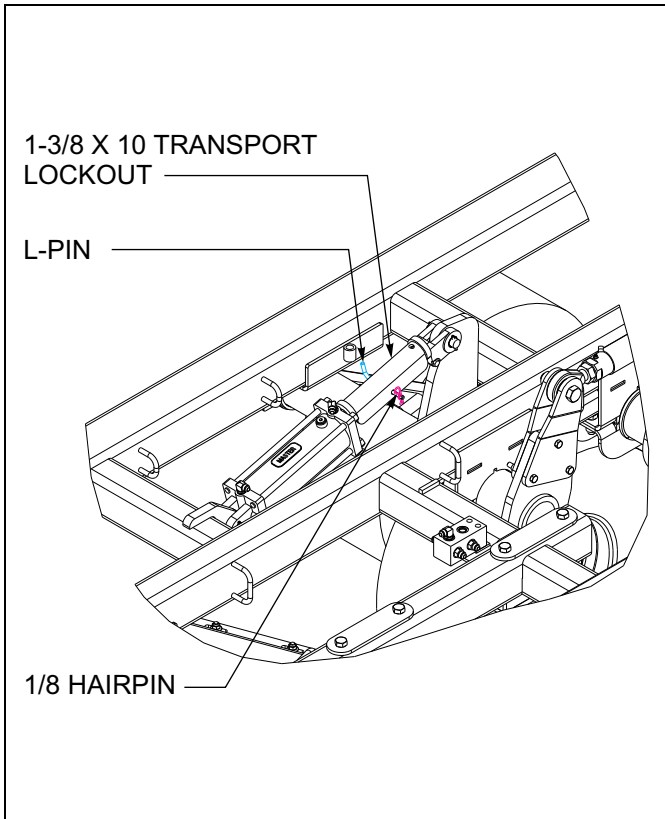

Figure 4-3: Installed Transport Locks
- With all cylinders fully extended, remove the 1-3/8 x 10 transport lockouts (See Figure 4-3.)